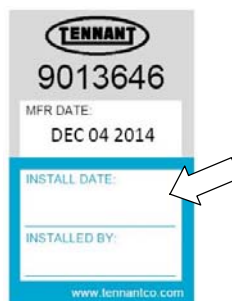

FIG. 95
4. Fill in the installation date on the new cartridge label (Figure 95).